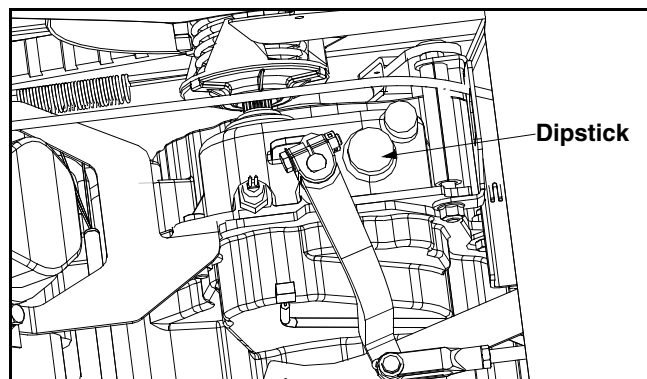

Figure 18
- Remove dipstick located on the top of the transaxle housing and wipe dipstick clean. See Figure 18.